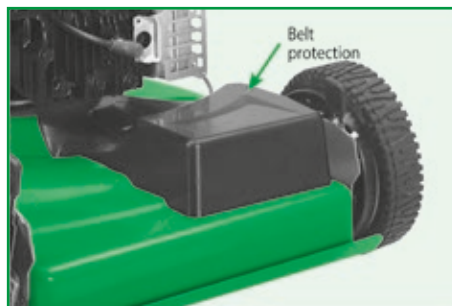

Figure 3
- ✓ Remove the belt protection (Fig. 3).
- ✓ Replace the belt protection (Fig. 3).